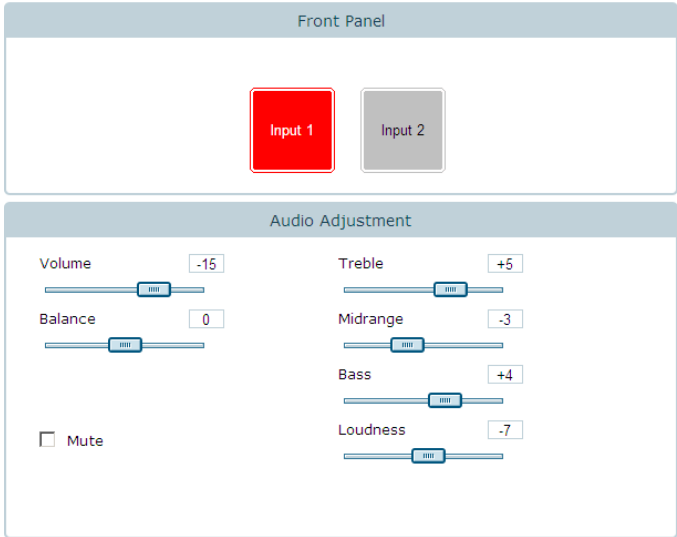

Figure 15: Control Settings
5. To choose the desired input, click on *Input 1* or *Input 2* (see Figure 15). Each input has its own set of audio adjustments.